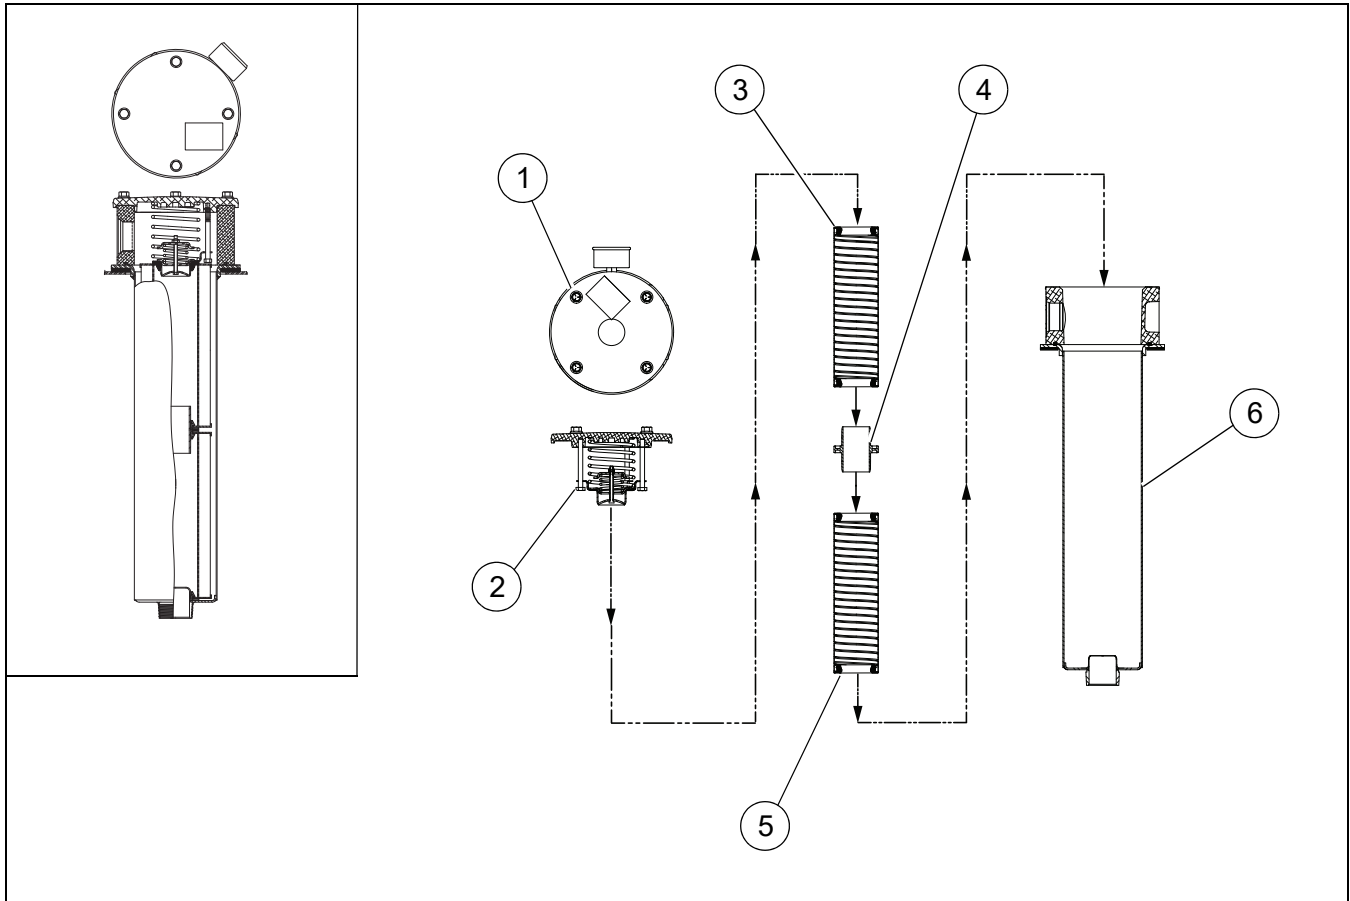

Figure 4
- Remove the cap screws (**Figure 4, 1**) on top of the filter head.
- Pull up and remove the cover assembly (**Figure 4, 2**).
- Pull both filter elements (**Figure 4, 3 and 5**) and the element connector (**Figure 4, 4**) out.
- Inspect and clean the inside of filter housing (**Figure 4, 6**) before installing new elements.